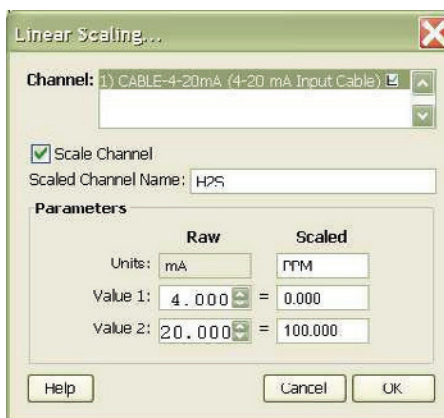

Figure 7 Set Scaling
9. Select **Scaling** to open the Linear Scaling Window (Figure 7). The **scale channel** check box should be checked. Give the channel an appropriate name, (H2S in this example) and set the scaling units to ppm with 4mA set for 0.0 and 20mA set for full scale. I.e. for 0-20ppm full scale would be 20ppm, or 20mA=20ppm. Select **OK** to return to the Launch Logger Screen.